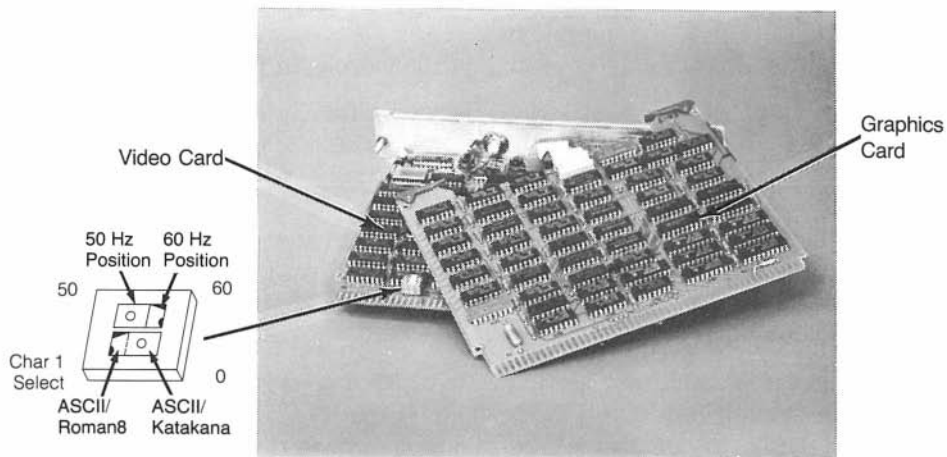

Figure 5-3. Display Compatibility Interface switches.
- a. Find the 50/60 Hz switch on the video card (see Figure 5-3).
- b. Set the 50/60 Hz switch to the desired setting by referring to Figure 5-3.
- a. Find the character select switch on the video card (see Figure 5-3).
- b. Set the character select switch to ASCII/Roman 8 or ASCII/Katakana by referring to Figure 5-3.